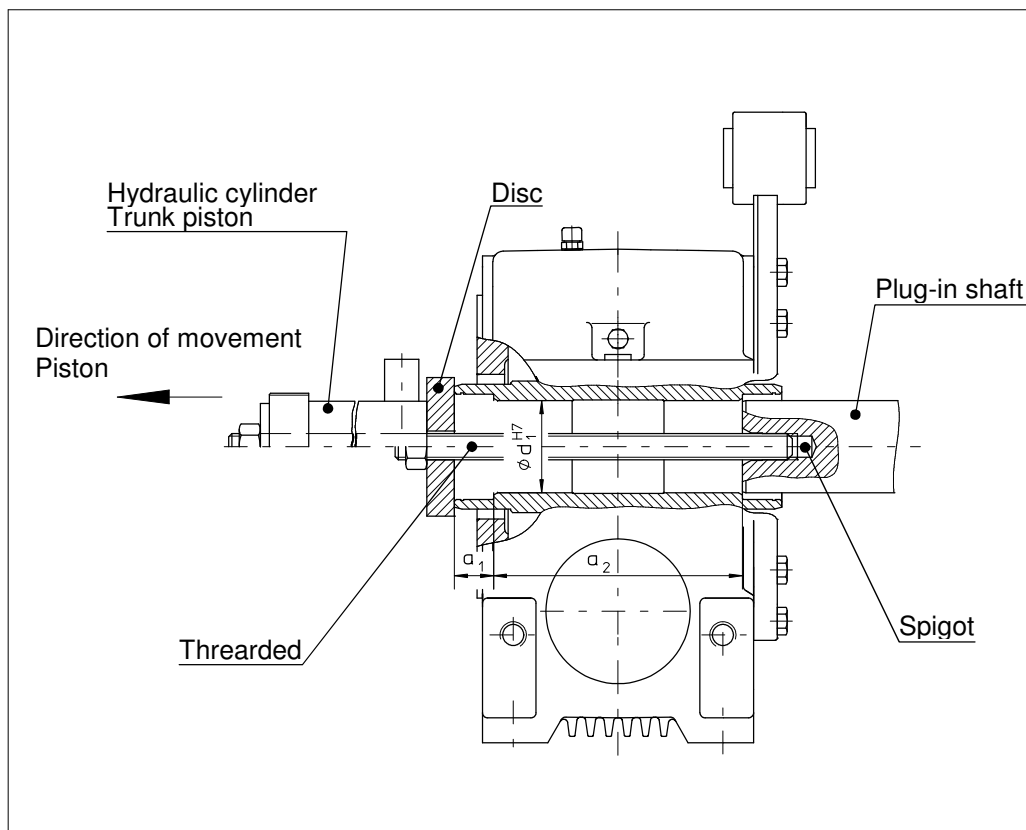

Figure 11
8. Mount gear unit motor to the traction sheave shaft according to figure 11.